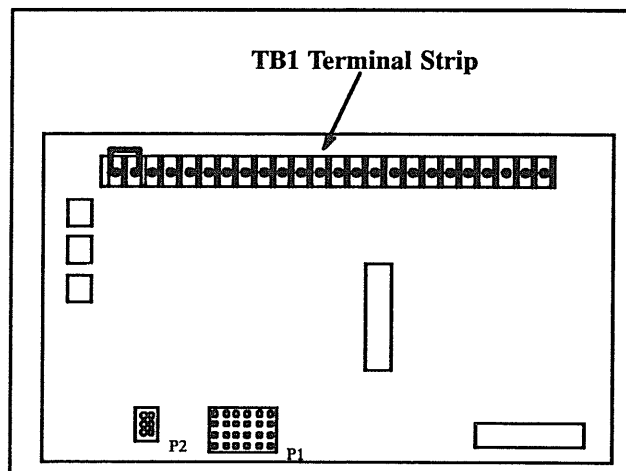

Figure 3-2. TB1 Terminal Strip on Controller circuit Board
33. **Controller TB1 Terminal Strip (on Circuit Board)** — allows connection of generator accessories such as emergency stop switch, remote start/stop switch, audio-visual alarms, etc. Crank mode selection (cyclic or continuous) is also made on the TB1 terminal strip. Location of the TB1 terminal strip on the controller circuit board is shown in Figure 3-2. Refer to Section 4. "Accessories" for additional information on connecting accessories to the TB1 terminal strip.